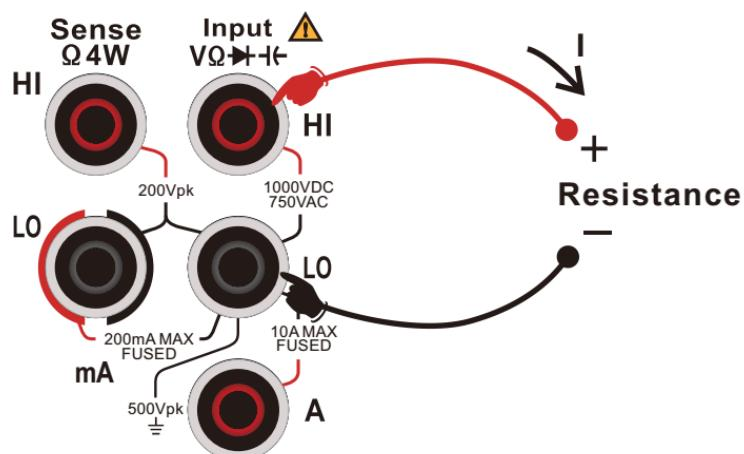

Figure 0-22 Measuring Connection of 2-wire Resistance Measurement
2. As shown in Figure 0-22, connect the test leads to the resistance to be measured, the red test lead to the "HI" terminal of the input jack and the black test lead to the "LO" terminal of the input jack.